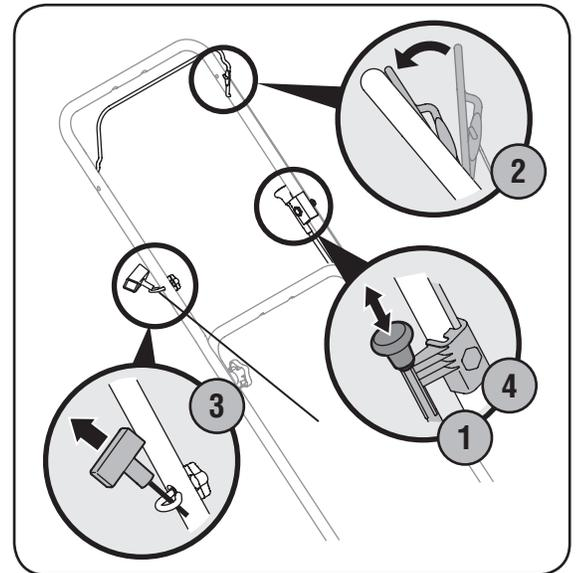

Figure 3-4
1. Move the choke lever on the left side of the upper handle to START position. See Figure 3-4.
3. Pull the starter grip lightly until resistance is felt, then pull rapidly to overcome compression, prevent kickback and start engine. Repeat if necessary. See Figure 3-4.
1. Release the blade control handle. See Figure 3-4.